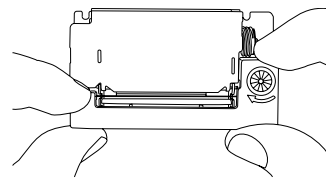

Fig 2-5 Remove the ribbon cassette
- Take off the ribbon cassette (See Fig 2-5) : take off the ribbon cassette lightly, uplift the left side of the ribbon cassette and then uplift the other side.